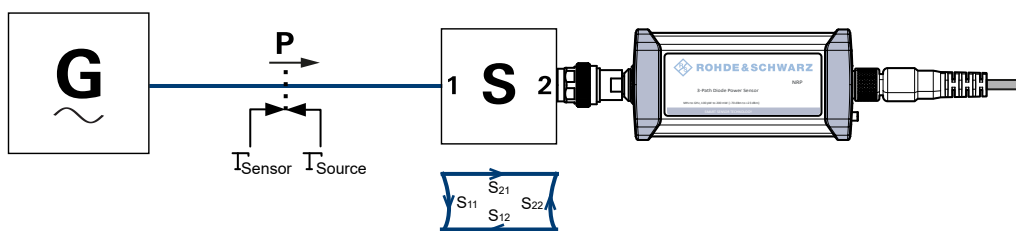

Figure 9-6: Correction of interactions between the power sensor, the signal source, and the S-parameter device
The interaction between the complex reflection coefficient Γ_{sensor} of the power sensor and the reflection of port 2 is expressed by s_{22} , see Figure 9-6. If the S-parameter correction is enabled, this interaction is always considered, regardless whether gamma correction is performed or not.
- S-parameter device if the S-parameter correction is enabled, S11 in Figure 9-6.